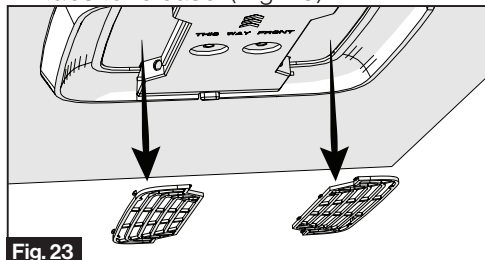

Fig. 23
2. Remove the filters by pushing the tabs to release. (Fig. 23)